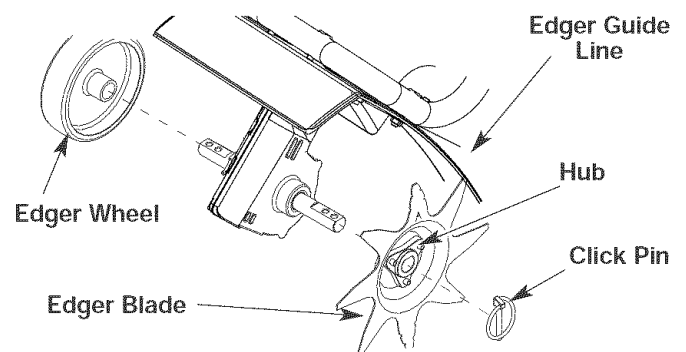

Fig. 6
3. Slide the edger wheel, with the hub facing inward, onto the right side of the tine shaft and secure with the click pin in the inside hole (Fig. 6).
4. Slide the edger blade with the hub facing out onto the left side of tine shaft and secure with the click pin in the inside hole (Fig. 6).